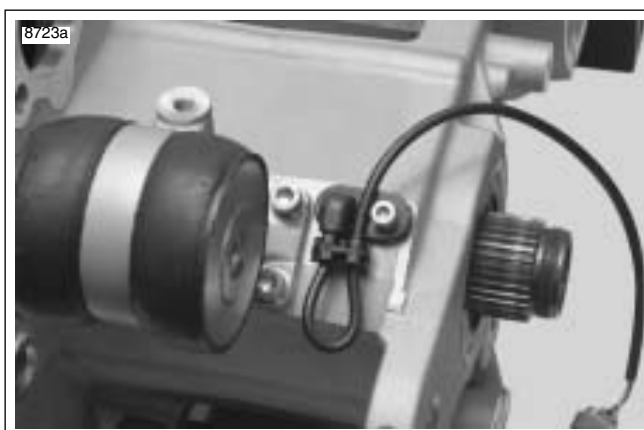

Figure 6-51. Rear Isolator Assembly
13. See Figure 6-51. Remove rear isolator assembly by removing the forward two fasteners first and then the two rear fasteners (re-install with new fasteners).